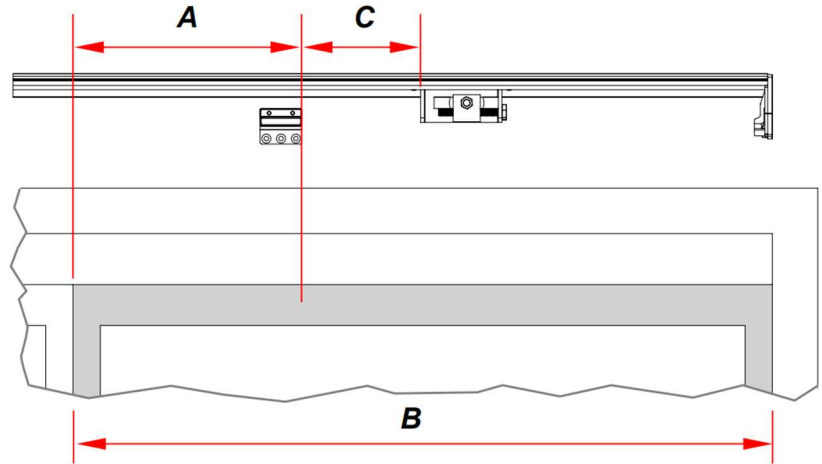
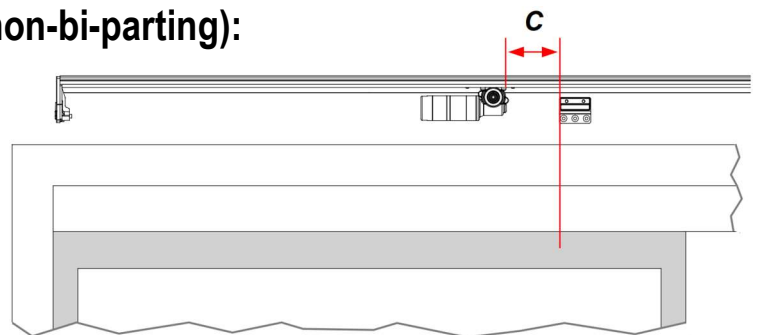

Figure 19: Left-opening sliding door: belt tensioner and bottom bracket. The right side is shown with sliding door closed.
Figure 22: Left-opening sliding door with motor and bottom bracket. The left side is shown with the sliding door open.
2. Slide the belt tensioner along the base until it is in front of **closed sliding door** as shown in Figure 19, where:
4. Mark the position of the bottom bracket on both the base and the door as in Figure 19.
2. Slide the motor along the base until it is 1.97" (50 mm) from the mark you made on the door for the bottom bracket position (Figure 19 and Figure 22, where **C** = 1.97" or 50 mm).